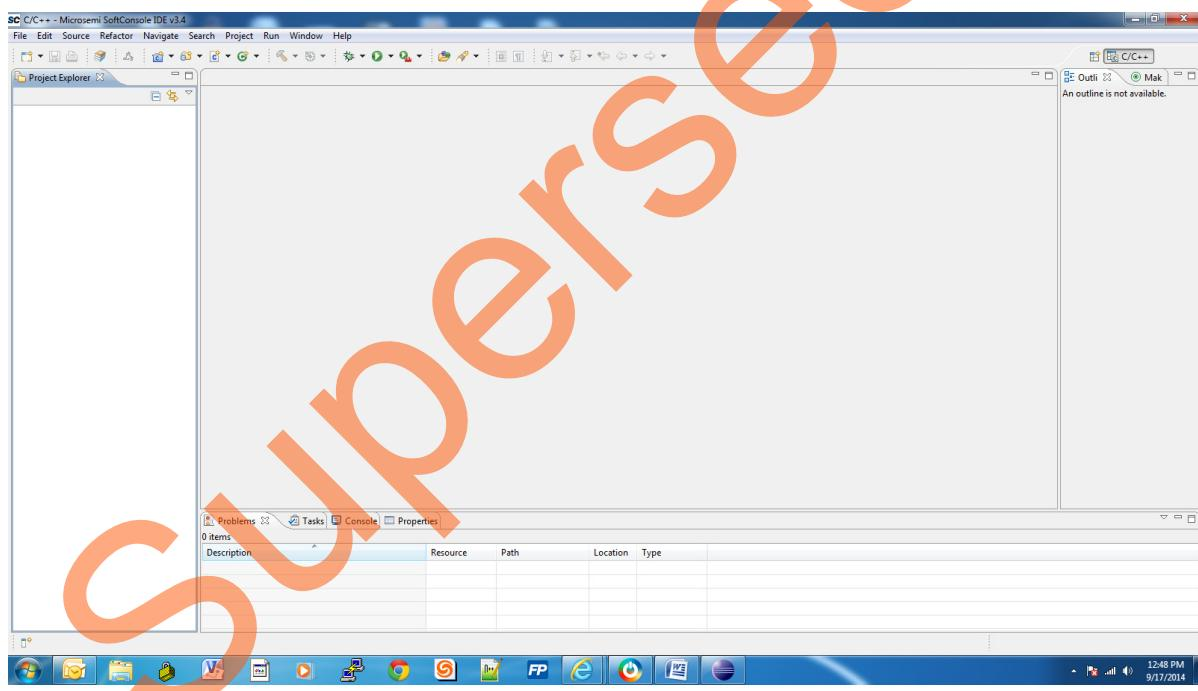

Figure 48 • SoftConsole IDE Project Workspace
1. To build the firmware eNVM client, invoke the standalone SoftConsole IDE. The **SoftConsole IDE Project Workspace** window is displayed as shown in Figure 48.